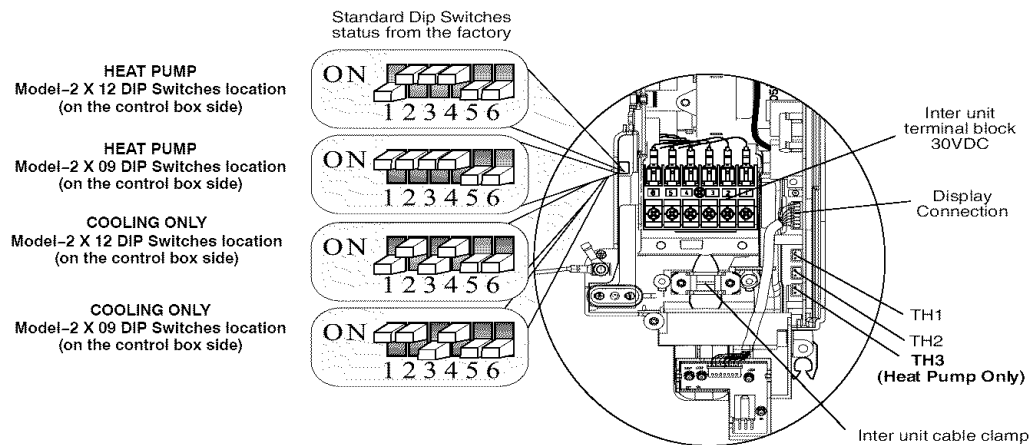

Fig. 9 — Outdoor Sensor Connection
- For heat pump systems only, connect the outdoor sensor TH3 to its mating black terminal. See Fig. 9.